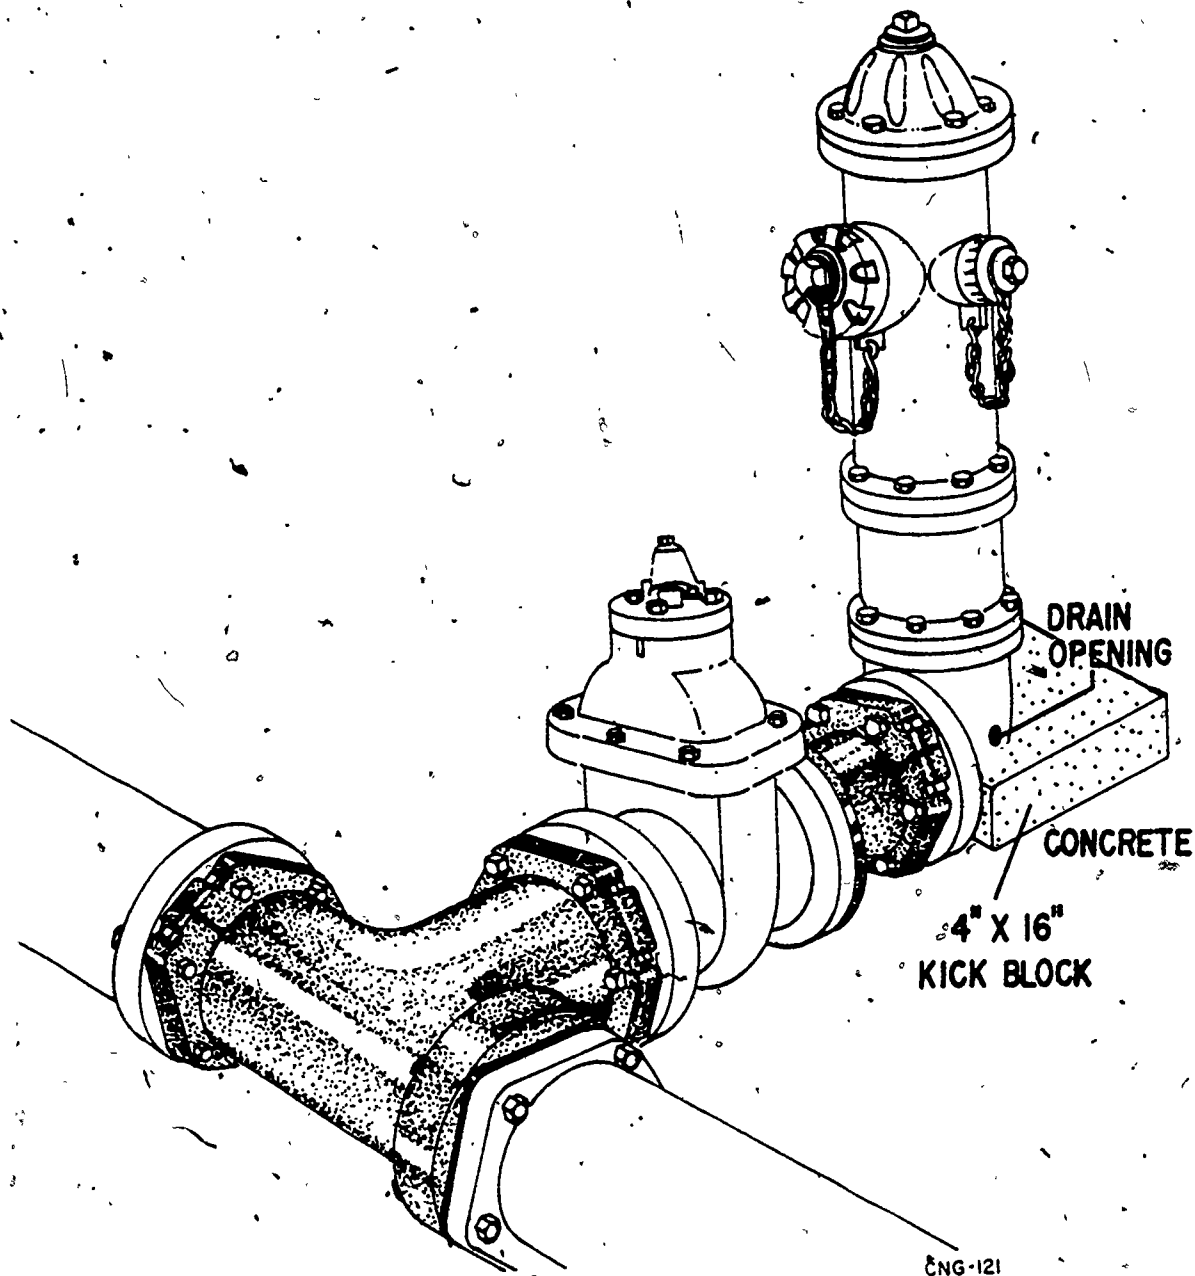

Figure 7-6 Isolation valve.
(1) The lowest outlet should be at least 18 inches above the ground.
(2) The highest operating nut must not be more than 48 inches above the ground.
(3) The water main feeding the hydrant must be 6 inches in diameter or larger.
(4) An isolation valve should be installed between the water main and the hydrant (see fig. 7-6).
(5) The water line to the hydrant must be buried deep enough to eliminate the possibility of freezing.
(6) The drain hole must be open.
(7) The hydrant should be braced with a kick block opposite the water entrance. This is to keep the pressure from "blowing" the hydrant off the pipe. The hydrant is braced by using concrete between the hydrant and solid ground.
(8) If the soil is sandy and unstable, attach the hydrant to the water main with bridle rods and clamps. The rods should be at least 3/4 inch in diameter and coated with an acid-resistant paint.
(9) After the hydrant has been connected, pack at least 7 cubic feet of crushed rocks around the base of the hydrant. This is to insure thorough draining of the hydrant.
(10) The earth should be replaced in layers 6 inches thick or less. Each layer should be tamped thoroughly before adding the next layer.